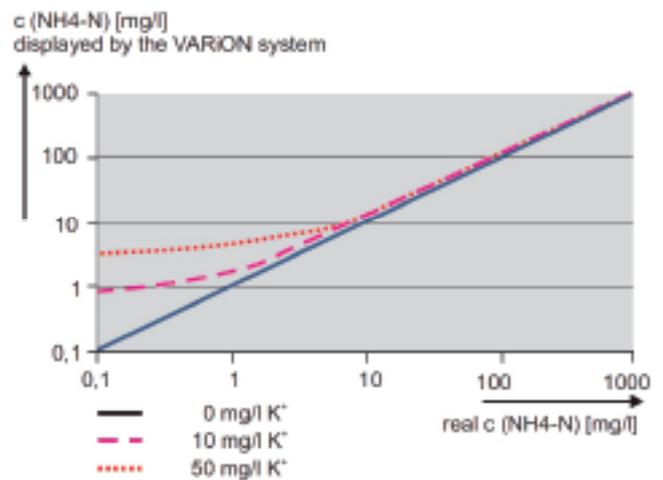
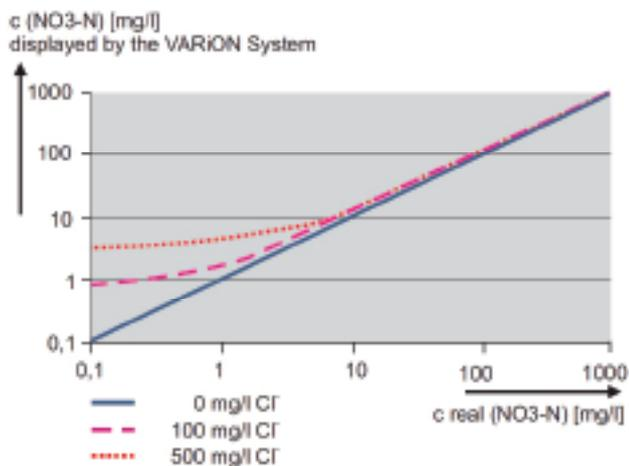

Figure 11. Effect of potassium on displayed measurement from ammonium ISE measuring system
Figure 12. Effect of chloride on displayed measurement from nitrate ISE measuring system
The ammonium ISE membrane is very selective. However, many substances interact with the membrane, causing interference. The most significant interference is potassium (K). The system will dynamically compensate for changes in potassium if a VARiON Plus K electrode is installed. A constant compensation factor is applied without a K electrode. Therefore, error in the potassium measurement will cause error in an otherwise perfectly functioning ammonium ISE. **Figure 11** shows the error for a range of ammonium concentrations displayed by an AmmoLyt or VARiON sensor
at various levels of Potassium. Likewise, the most significant interference for nitrate is chloride. **Figure 12** (page 8) shows the error for a range of nitrate CONCENTRATIONS displayed by a NitraLyt or VARiON at various levels of chloride. Figures 11 and 12 demonstrate that the lower the concentration of ammonium or nitrate, the greater the relative impact of the potassium or chloride interference.